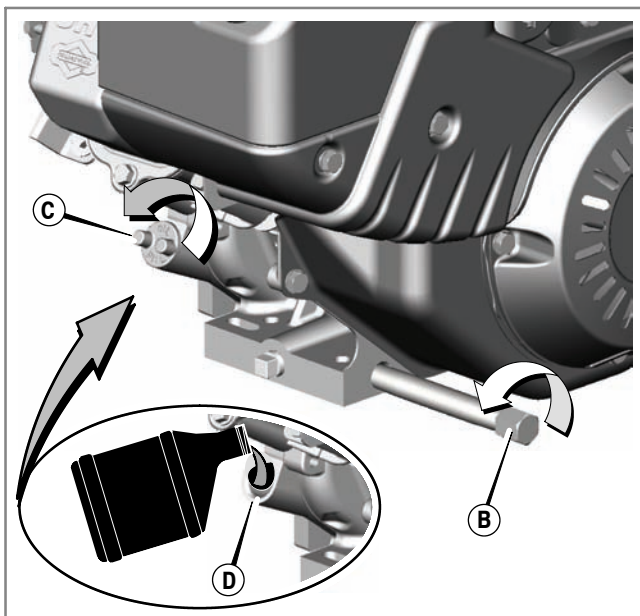

Figure 18
2. Remove the oil drain cap (B, Figure 18). Drain the oil into an approved receptacle.
1. Remove the oil fill cap (C, Figure 18).
2. Pour the oil slowly into the engine oil fill (D). Fill to point of overflowing.